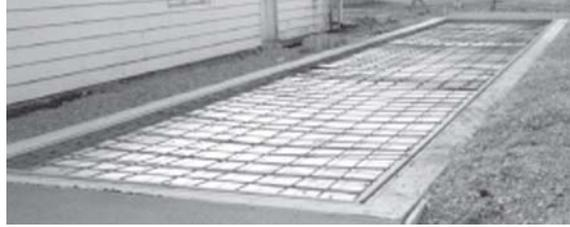

Figure 3-9. Metal sheeting example.
3. Trim sheet metal as needed for clearance around any vertical gussets in the support beams and around the manhole on the cross beams. Figure 3-9 shows the metal sheeting used on a EZ-SR truck scale installation.